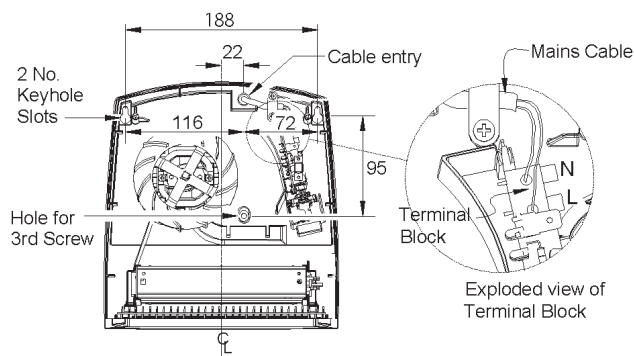

Fig. 2
- Make electrical connections to the terminal block ensuring that the live connection is made to the terminal marked 'L' and the neutral connection to the terminal marked 'N' (see Fig. 2 exploded view).
The appliance is secured to the wall with three screws, two through keyhole slots and one through a centrally positioned lower hole to hold the appliance firmly in position (see Fig. 2).